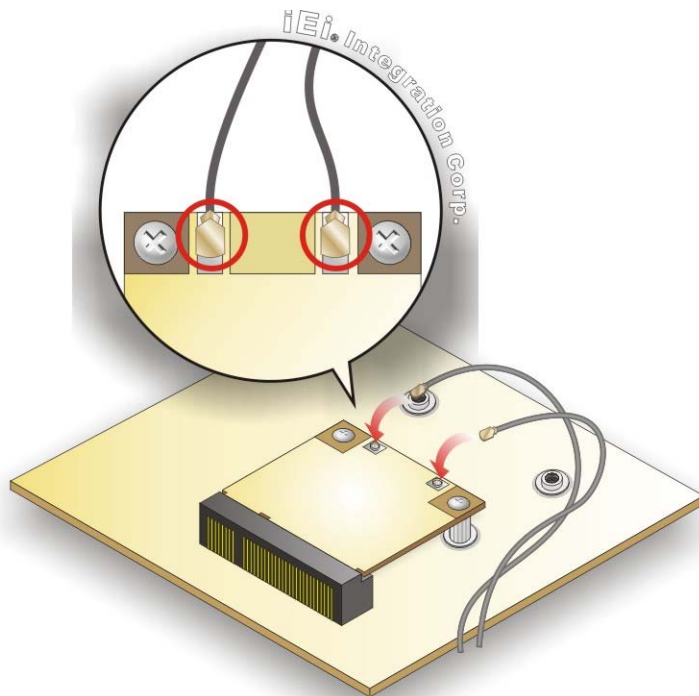

Figure 3-19: Connecting RF Cables
Step 6: Connect the two RF cables to the antenna connectors on the WLAN module (Figure 3-19).